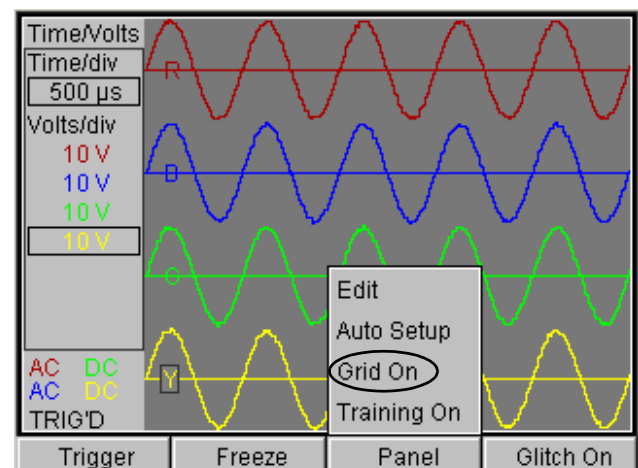

Figure 7.43: Lab Scope Screen, DMM off - Panel Function Key, Grid On Option
- 4 Press the **ENTER** key. The grid lines no longer appear in the graph. They are "turned off" (see Figure 7.43).
NOTE: To turn the grid lines back on, select the **Grid On** option from the Panel menu (when you select **Grid Off**, the menu option changes to **Grid On** - see Figure 7.43).